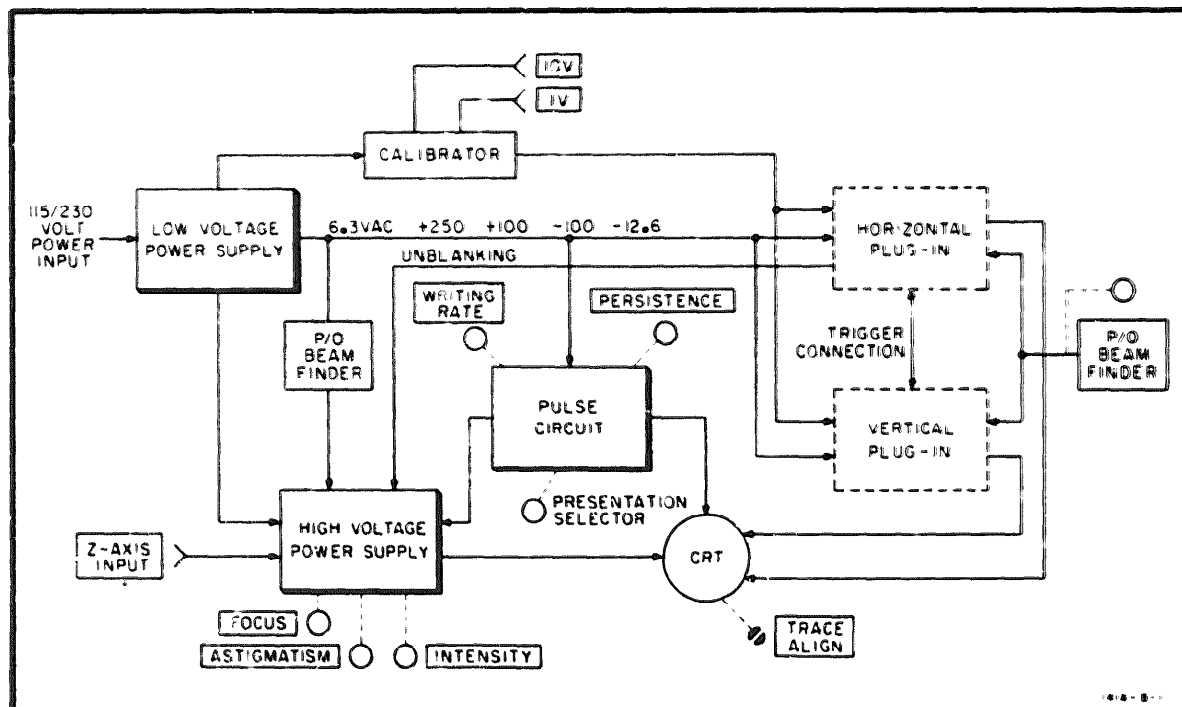

Figure 1-14. Model 141A Block Diagram
a. Refer to the block diagram, Fig. 1-14, for this explanation. The Model 141A Oscilloscope has four main circuits: a low-voltage supply, a high-voltage supply, a calibrator circuit, and a pulse circuit. The horizontal and vertical amplifier circuits are in the plug-in units and operate directly into the CRT.